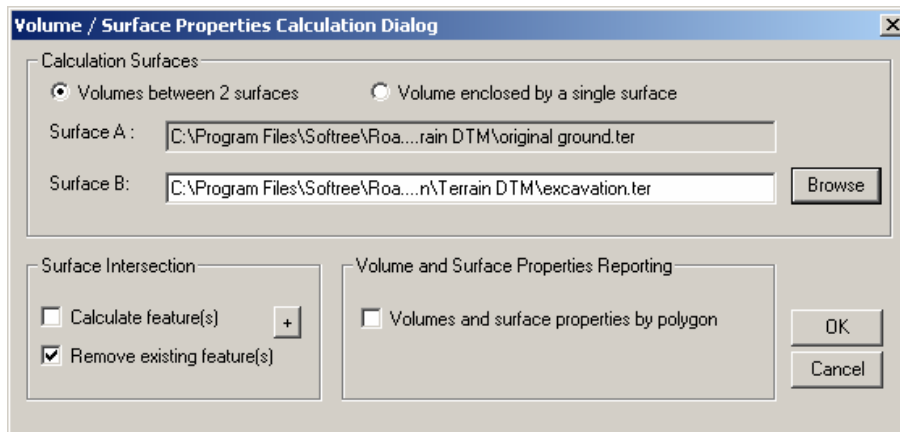

Figure 8.16: Volume / Surface Properties Calculation Dialog
2. Press the *Calculate Volumes*  button or select Edit | Terrain Modelling | Calculate Volumes/Surf. Properties to activate the *Volume/Surf. Properties Calculation dialog* box as shown in Figure 8.16.